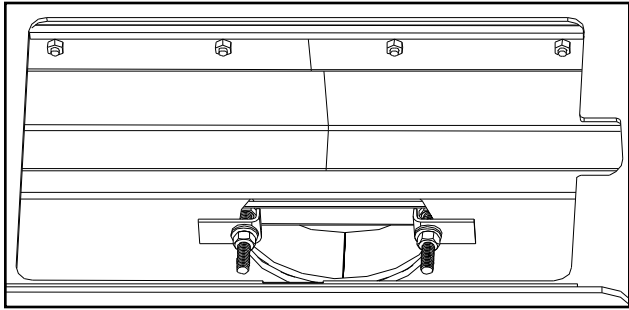

Figure 41: Removable flue collar in place.
- f)** Place the Collar Puller, over the two bolts of the Flue Collar and pull it into place (see Figure 41). Ensure that the bolts are to the left and right of the hole. If they are not, the front secondary air tube will need to be removed in order to install or remove the C-Cast Ceramic Baffles.
- h)** Re-install C-Cast Ceramic Baffles and the rear two (2) secondary air tube (see C-CAST CERAMIC BAFFLE INSTALLATION).